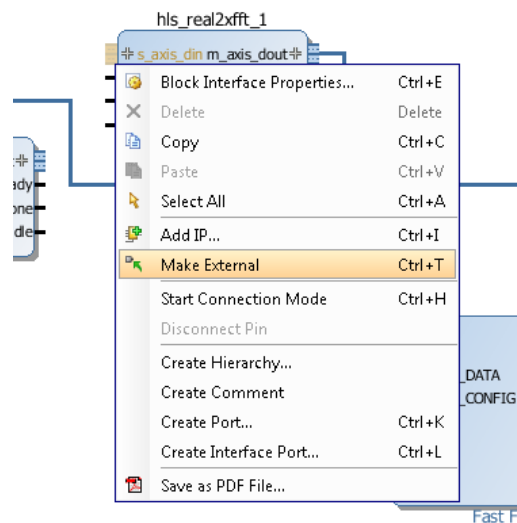

Figure 203: Make External Connections
- Right-click the “s_axis_din” interface connector on Hls_real2xfft block and select **Make External** (Figure 203).